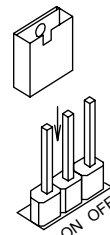

Fig 2.0
- Place now JP1 in ON position (see fig. 2.0)